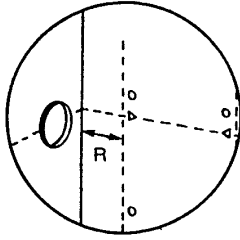

Fig. 40
1. For both Left and Right Hand Flue – Measure the distance from the wall to the nearest line marked from the template. This will be known as distance R (Fig. 40).